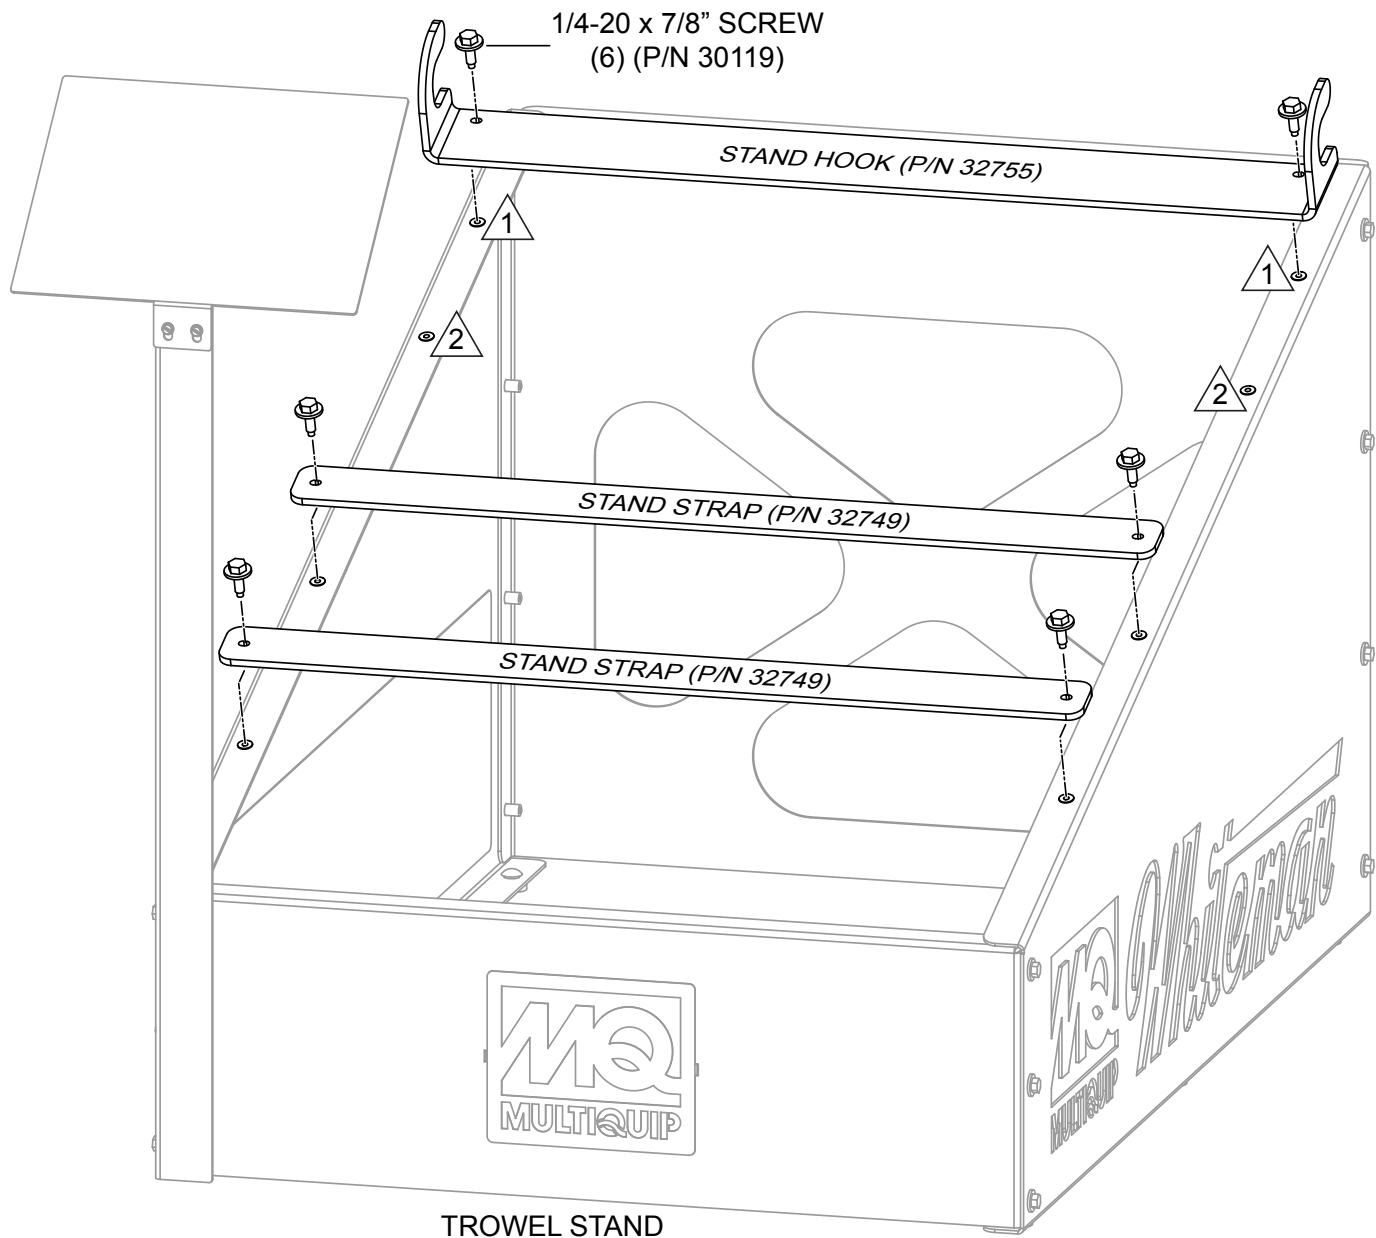

Figure 4. Trowel Stand Hook and Strap Installation
1. Secure the two stand straps (P/N 32749) onto the trowel stand using 1/4-20 x 7/8" screws (4) as shown in Figure 4.
2. Secure the stand hook (P/N 32755) onto the trowel stand using 1/4-20 x 7/8" screws (2) as shown in Figure 4. See note below.